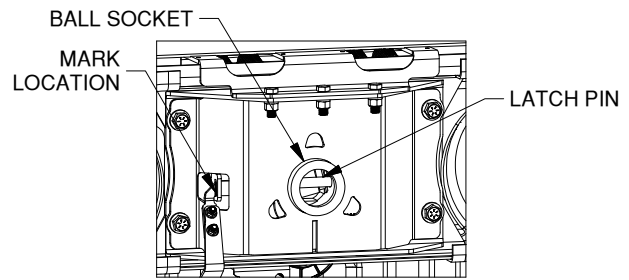

FIGURE G1: View under bed looking up at center section.
6. **Check latch pin engagement.** When installed properly, the latch pin mechanism should pass through both sides of the ball socket. With the ball removed, push handle toward the rear of the truck until the handle retracts and the latch pin engages. Visually inspect the ball socket and check to be sure the latch pin has passed completely through the socket. Make a mark on the latching mechanism where indicated in figure G1 to show where the latching mechanism should be when the pin is correctly positioned in the ball socket. Retract the pin, replace the ball, and re-engage the pin. Check the marked location on the latching mechanism. If the mark is in the same location as when the mark was made, then the latch pin has gone completely through the ball socket.